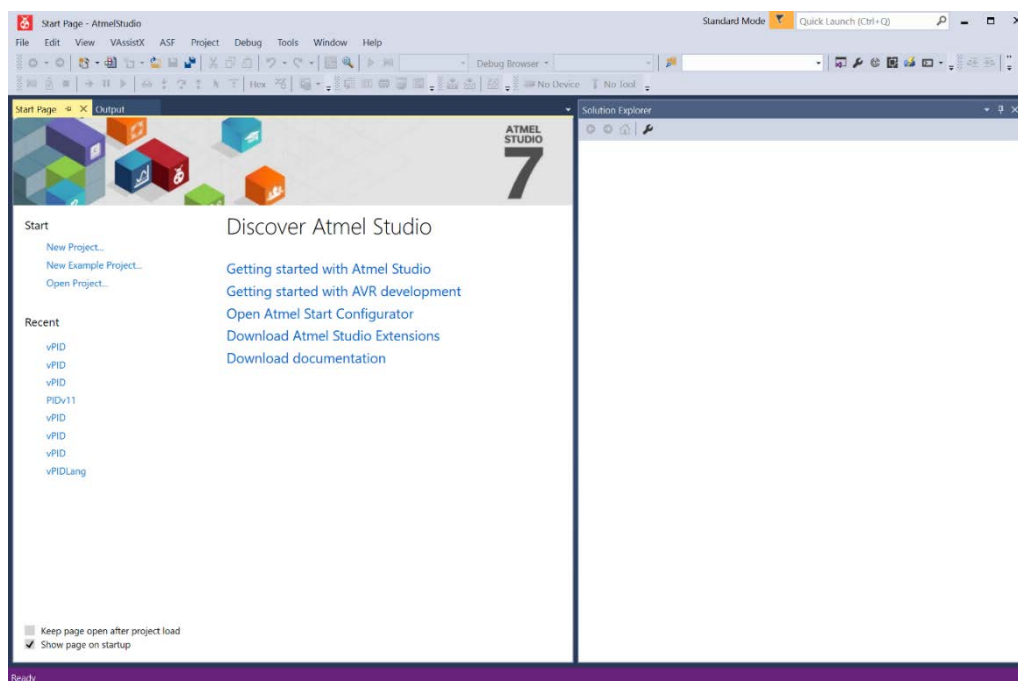

Figure 1: Atmel Studio Start Page
1. Start ATMEL Studio (Figure 1)